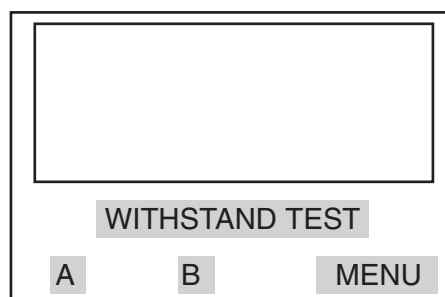

Figure 15 Example of options in the proof test
3. Press 'SELECT' to move to the test option screen display as shown in the example of figure 15. The 'QUIT' option moves back to the choice of proof test screen display.